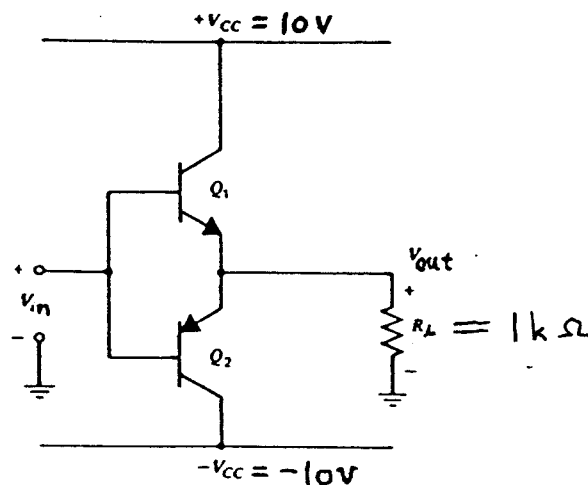

Figure 4. Class B output stage
- 1) Build the class B output stage as shown in Figure 4. Obtain and sketch the V_{out} vs. V_{in} transfer characteristic by using the x-y function on the oscilloscope. Use a 1 kHz sine-wave input. How large is the "dead band" around $V_{\text{in}}=0\text{ V}$? What is the gain of the output stage outside of the dead band?